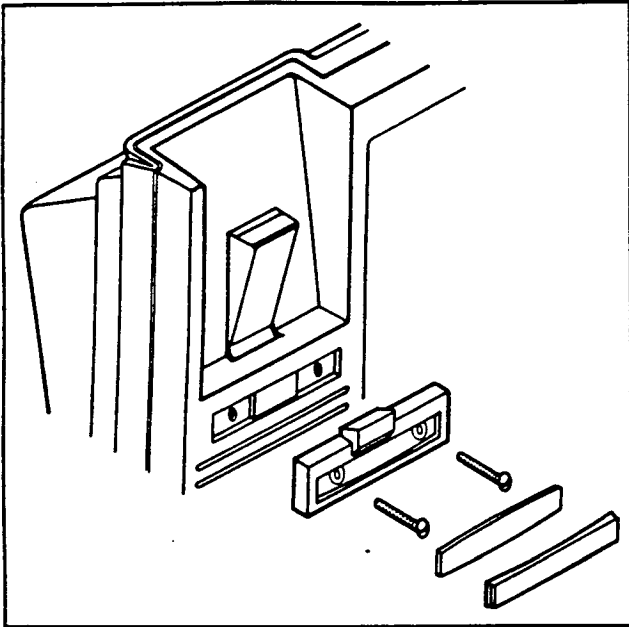

FIGURE 27—HANDSET HANGER KIT
10.31 Refer to Figure 27, the optional handset hanger kit (available from your Toshiba supplier) must be used whenever an EKT is wall-mounted. (When ordering specify if "S" EKT or optional EKT—the HWMA is included in the SKWM kit.) The remainder of the installation is the same for all EKT types.